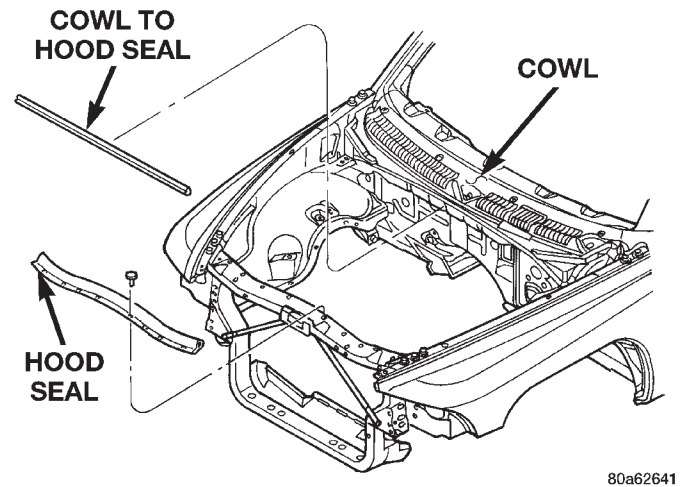

Fig. 10 Cowl Seal
- (1) Grasp cowl seal and pull from flange.
- (2) Separate cowl seal from vehicle (Fig. 10).
- (1) Remove push-in fasteners attaching hood seal to radiator closure panel.
- (2) Separate hood seal from vehicle (Fig. 10).